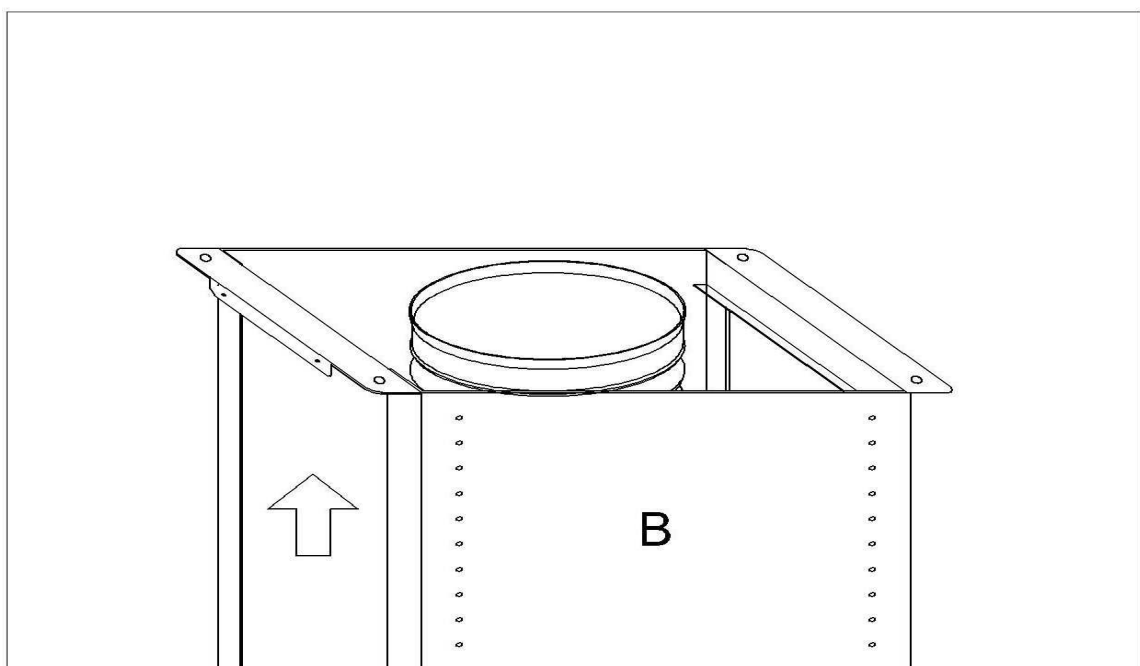

Fig.6
8. Suction **version**: fix the flexible pipe to the ventilation hole (Fig.6).